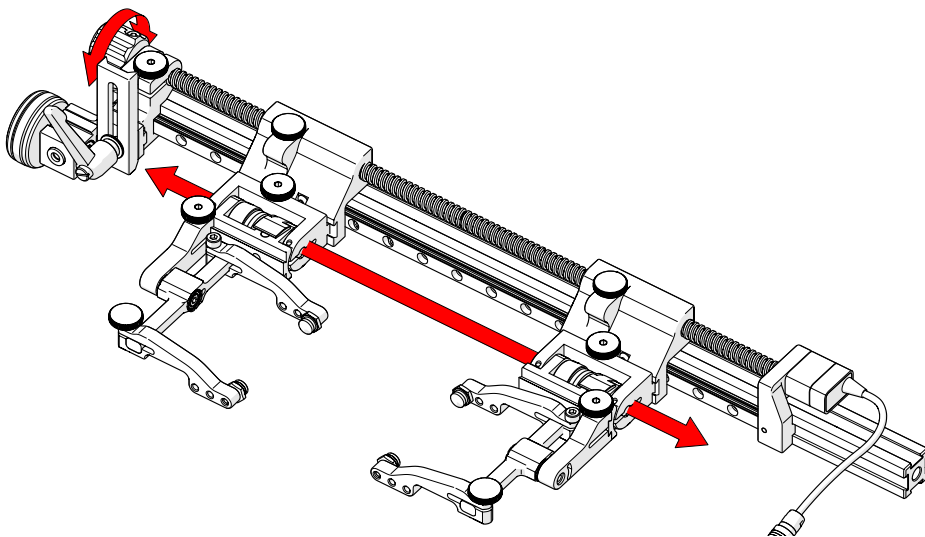
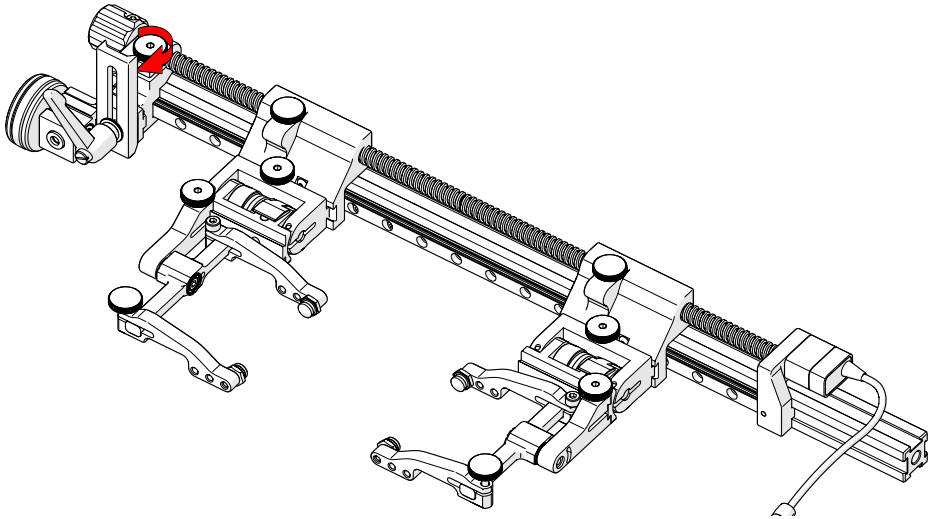

Fig. 169 - Adjustment knob
Fig. 170 - Tighten PPS lock knob
4. Ensure the PPS lock knob (*Fig. 170*) is loose. Use the PPS adjustment knob to position both carriages simultaneously (*Fig. 169*).
5. The PPS lock knob prevents the leadscrew from movement once scanning is underway (*Fig. 170*).